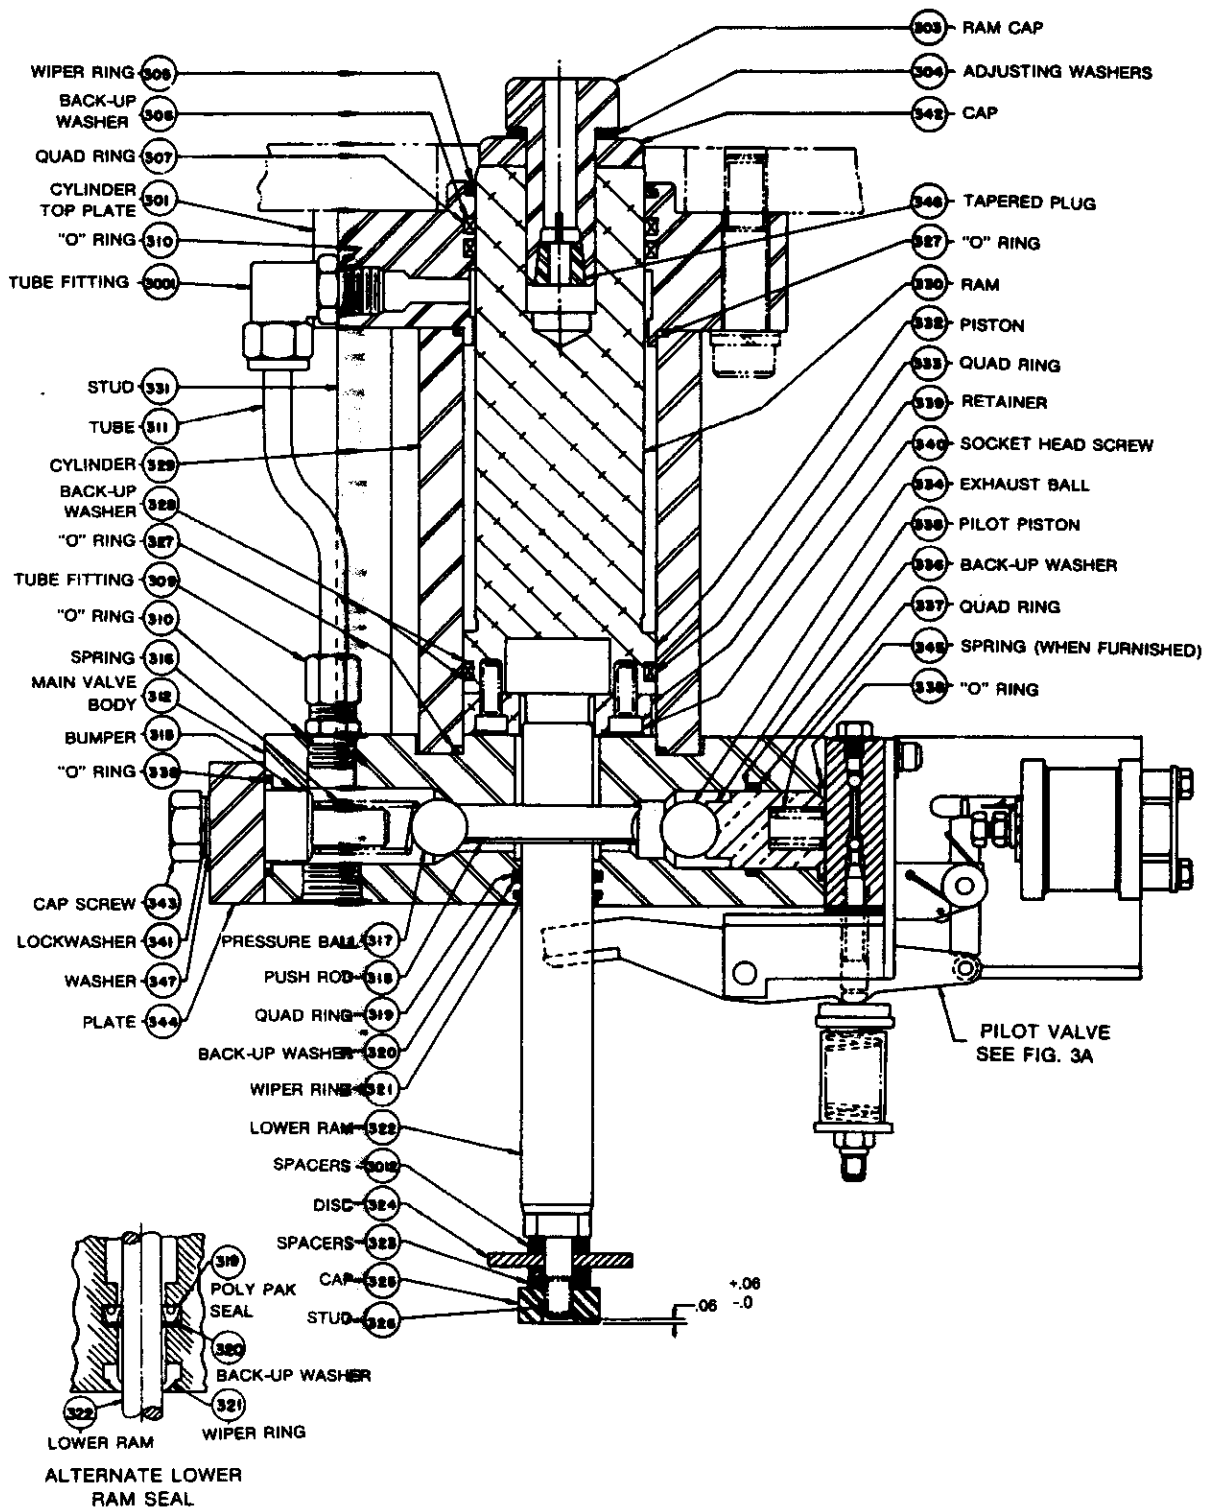

FIG. 3
To install this maintenance closing device, insert four studs through holes in support plate and screw to full depth of thread engagement in tapped holes provided on the lower surface of the main valve body. Adjust studs to provide proper levelling of support plate to insure each stud is taking its share of the load. The hydraulic jack may then be placed in position, care being taken to see that the jack plunger is centered with lower ram (322) of operating cylinder (Fig. 3).
*To avoid damage to the threaded end of stud (326), a clearance of 1/16, plus 1/16 and minus 0 inches, must be maintained between the end of the stud and the lower face of cap (325). This dimension is shown in Figure 3.*